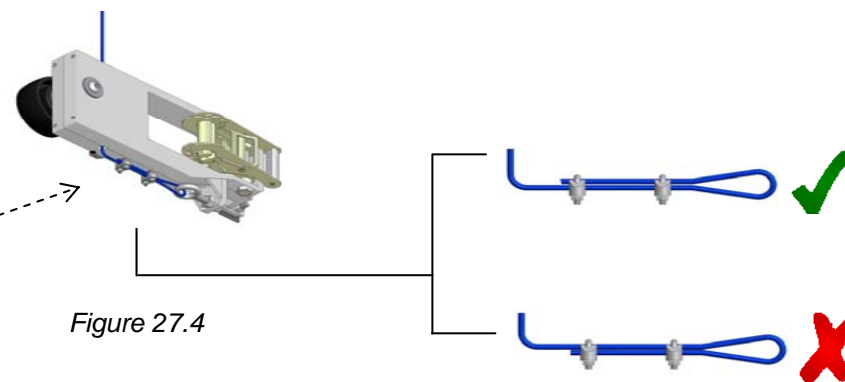

Figure 27
8.5 Replacing Section 3.3: Thread cables (H1) as indicated in Figures 27 and 28. Start at the Lower Trolley and wrap the cable around the adjusting eyebolt and secure with two 5mm Cable Grips (supplied), ensure the bridge section of the grip is against the cable under tension, (Figure 27.4).